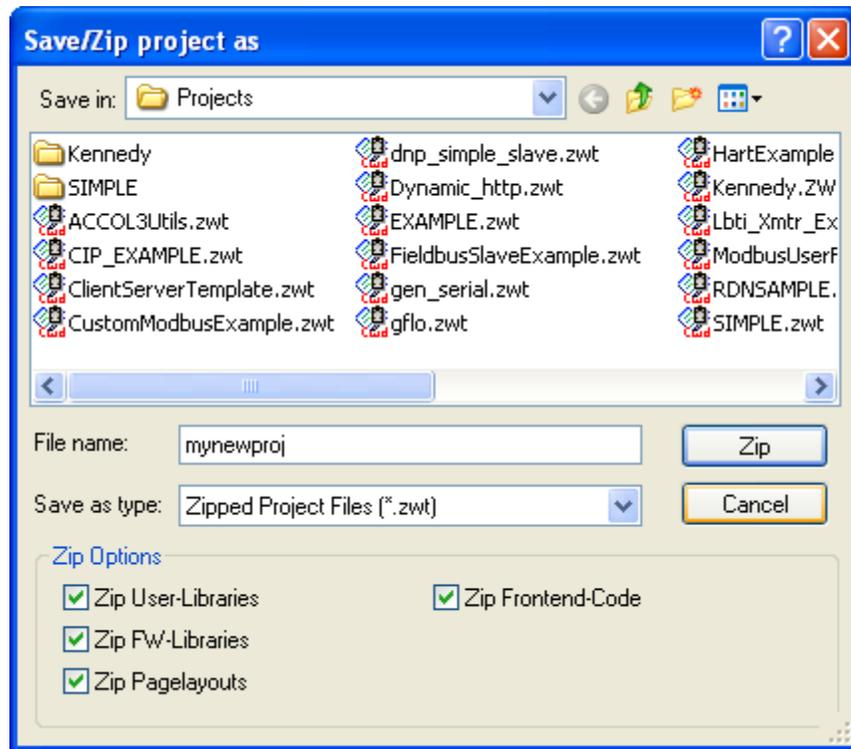

Figure 4-3. Saving a Backup of Your Project
2. In the “Save/Zip project as” dialog box, specify a project name in the **File name** field. In *Figure 4-3* we chose the name **mynewproj**.